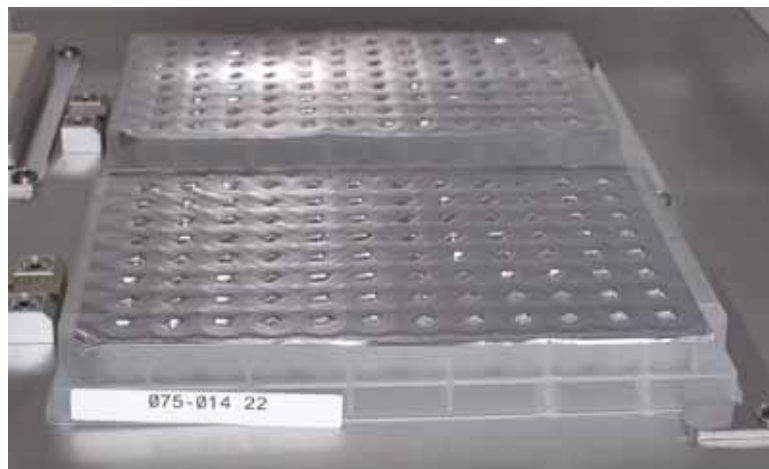

Figure 2.11 Reagent cards on deck.
6. Remove the clear plastic lids and place the reagent plate on deck (see Figure 2.11).